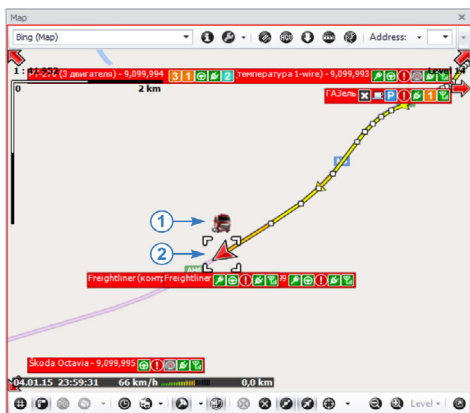

Fig. 94. Vehicle cursor and image.
Vehicle cursor is a special icon (**Fig. 94, item 1**), which shows: